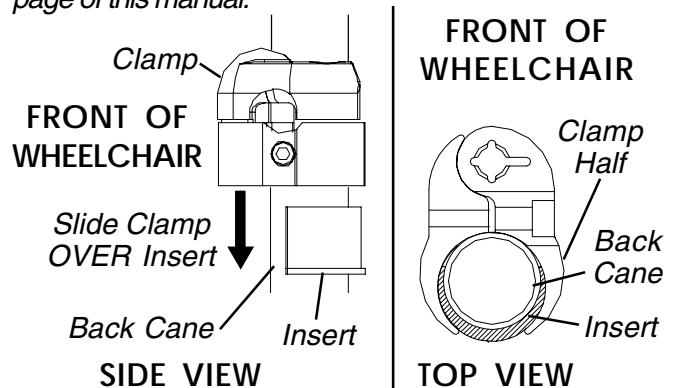

FIGURE 2 - INSTALLING INSERTS
INSTALLING INSERTS (FIGURE 2)
2. Position one (1) insert onto the back cane near the cane clamps with the opening facing the front of the wheelchair.
3. Slide the cane clamp over the insert until the clamp halves surround the insert as shown in **FIGURE 2**.